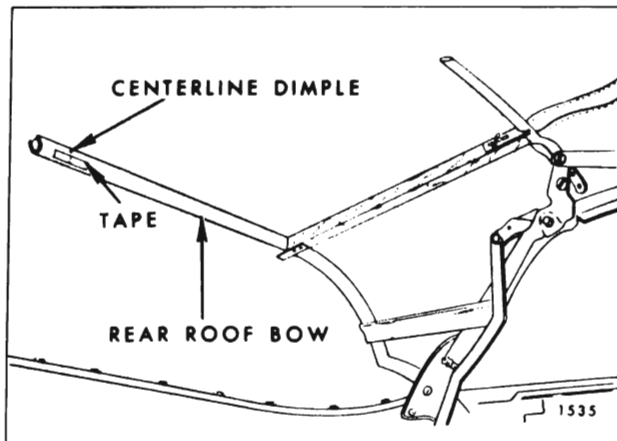

Fig. 13-40 — Marking Rear Roof Bow
5. Along forward surface of rear roof bow install a 1" piece of tape at centerline dimple of rear roof bow. Using a pencil, mark centerline of rear bow on tape (Fig. 13-40).
NOTE: The deck seam mark will vary slightly ($\pm 1/4''$) depending upon position of rear roof bow. Also check centerline mark on inner lining of top material. Mark should correspond to centerline mark on rear roof bow. (Fig. 13-40).